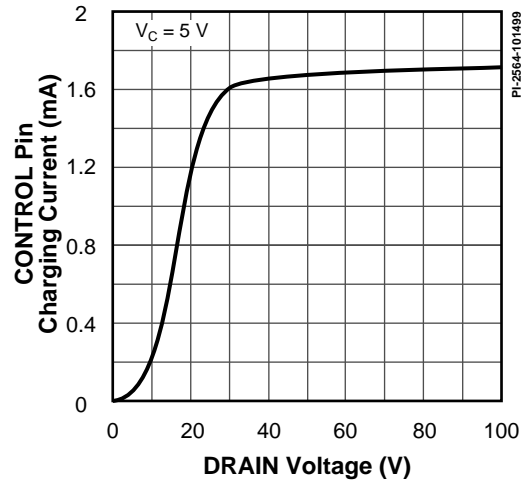

Figure 67.  $I_C$  vs. DRAIN Voltage.
- E. It is possible to start up and operate *TOPSwitch-GX* at DRAIN voltages well below 36 V. However, the CONTROL pin charging current is reduced, which affects start-up time, auto-restart frequency, and auto-restart duty cycle. Refer to Figure 67, the characteristic graph on CONTROL pin charge current (IC) vs. DRAIN voltage for low voltage operation characteristics.